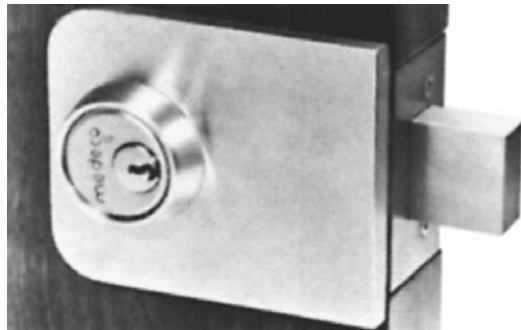

Figure 13.41 Installing face plate.
13. Install the faceplate with the screws provided (Fig. 13.41).